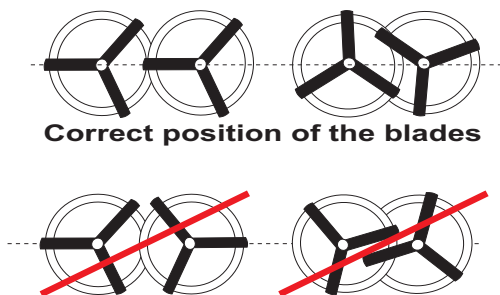

Figure 3. Positioning Blades
2. When installing the mixing tools, make sure that the blades are correctly positioned as shown in Figure 3.